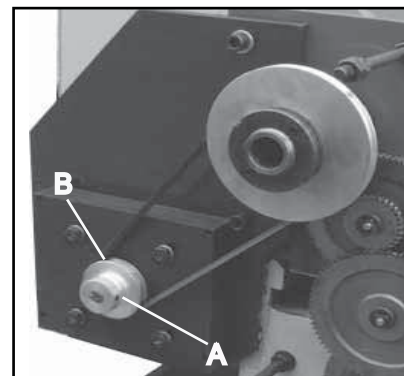

Fig. 20
2. To selection A or B according to your requirement, A is low speed, B is high speed. (Fig. 20)